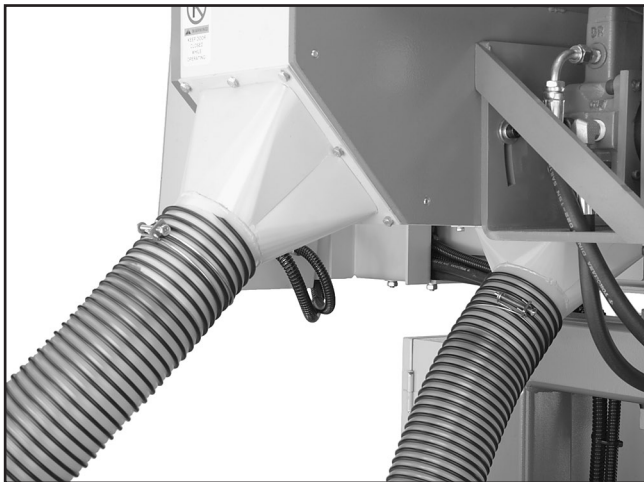

Figure 20. Dust hose connected to dust port.
1. Attach two 4" dust hoses to the dust ports as shown in **Figure 20**, and be sure to tighten the hose clamp to ensure a snug fit.